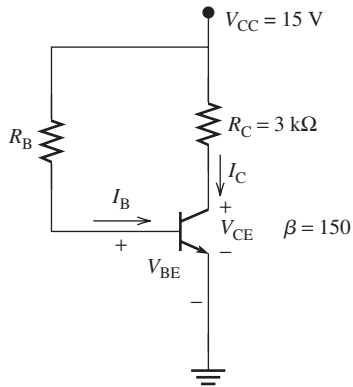

FIGURE P8.41 Circuit for Problem 8.41.
8.41 (A) For the circuit shown in Figure P8.41, find the value of the resistor, R_B , which adjusts the collector-emitter voltage to be 6 V.